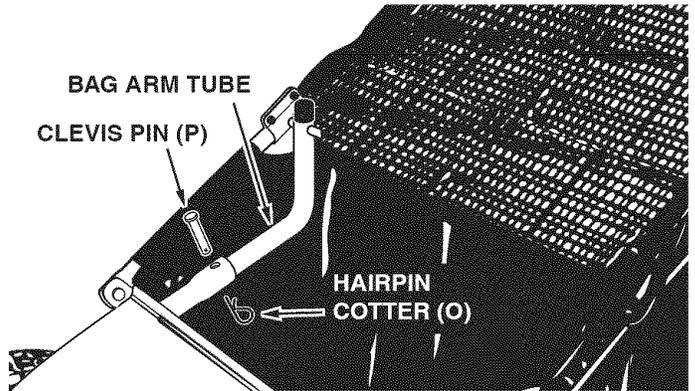

FIGURE 18
- To attach the hopper bag to the sweeper, slide the ends of the bag arm tubes into the ends of the hitch tubes and secure with two clevis pins (P) and hairpin cotters (O). See figure 18.